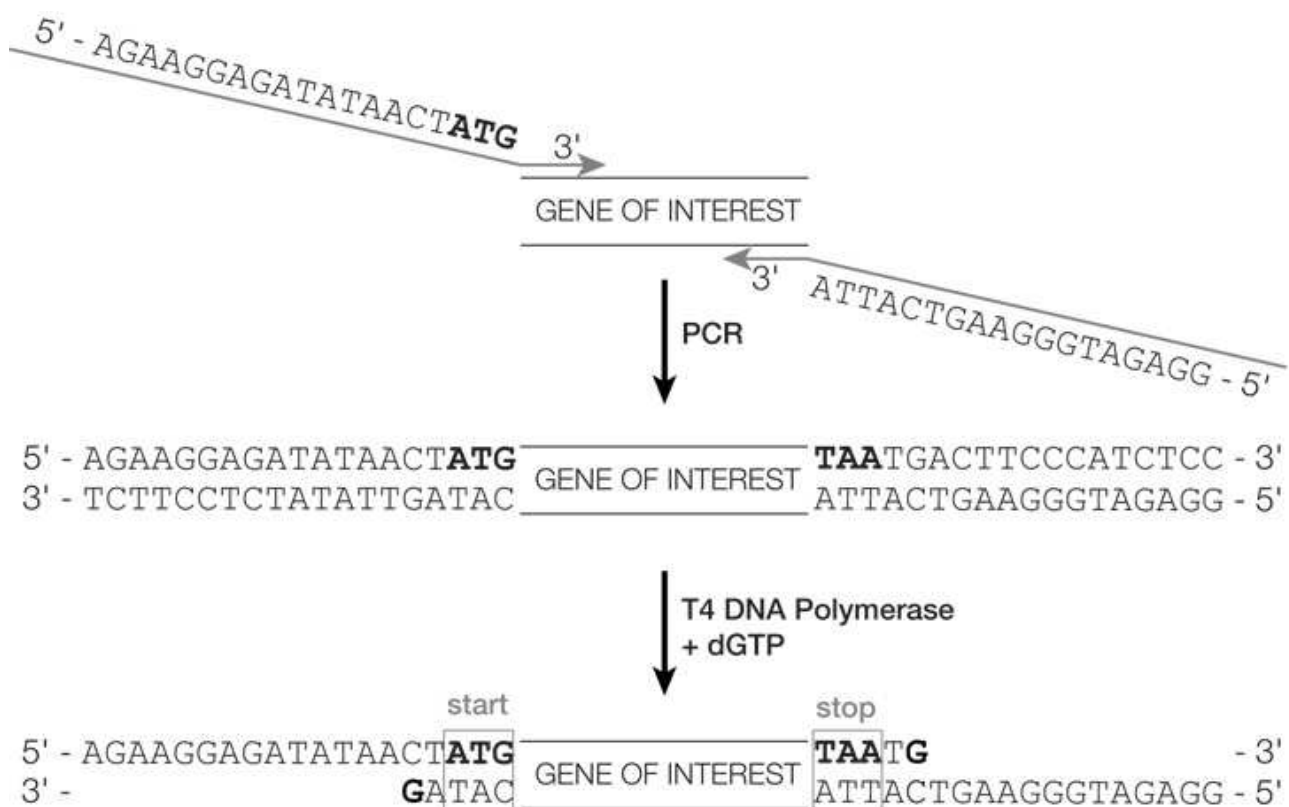

Figure 2. Generation of sticky ends on the gene of interest with T4 DNA polymerase and dGTP.
The LIC method uses T4 DNA polymerase to create specific 14–21 nucleotide single-stranded overhangs on the pLATE vectors and DNA inserts (2). T4 DNA polymerase has two enzymatic activities: 5'–3' polymerase activity and 3'–5' exonuclease activity. The exonuclease activity removes nucleotides from the 3' ends of the DNA while the polymerase activity restores the chain using dNTPs and the complementary DNA strand as a template. In the LIC protocol, only dGTP is included in the reaction, causing the 3'–5' exonuclease and 5'–3' polymerase activities to equilibrate at the first occurrence of cytosine in the complementary strand (Fig. 2). After annealing, the LIC vector and insert are transformed into competent *E. coli* cells without the use of T4 DNA ligase. Covalent bond formation at the vector-insert junctions occurs within the cell to yield circular plasmid.